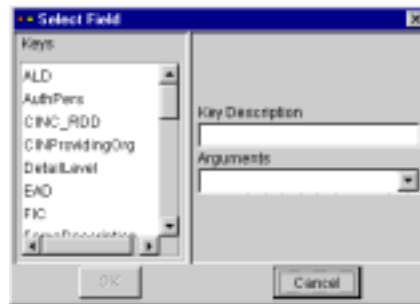

Figure 5.105 Select Field Window
14. When the Comparison Type is Field and the panel below is Field, click the Set... button. The Select Field window opens (Figure 5.105).